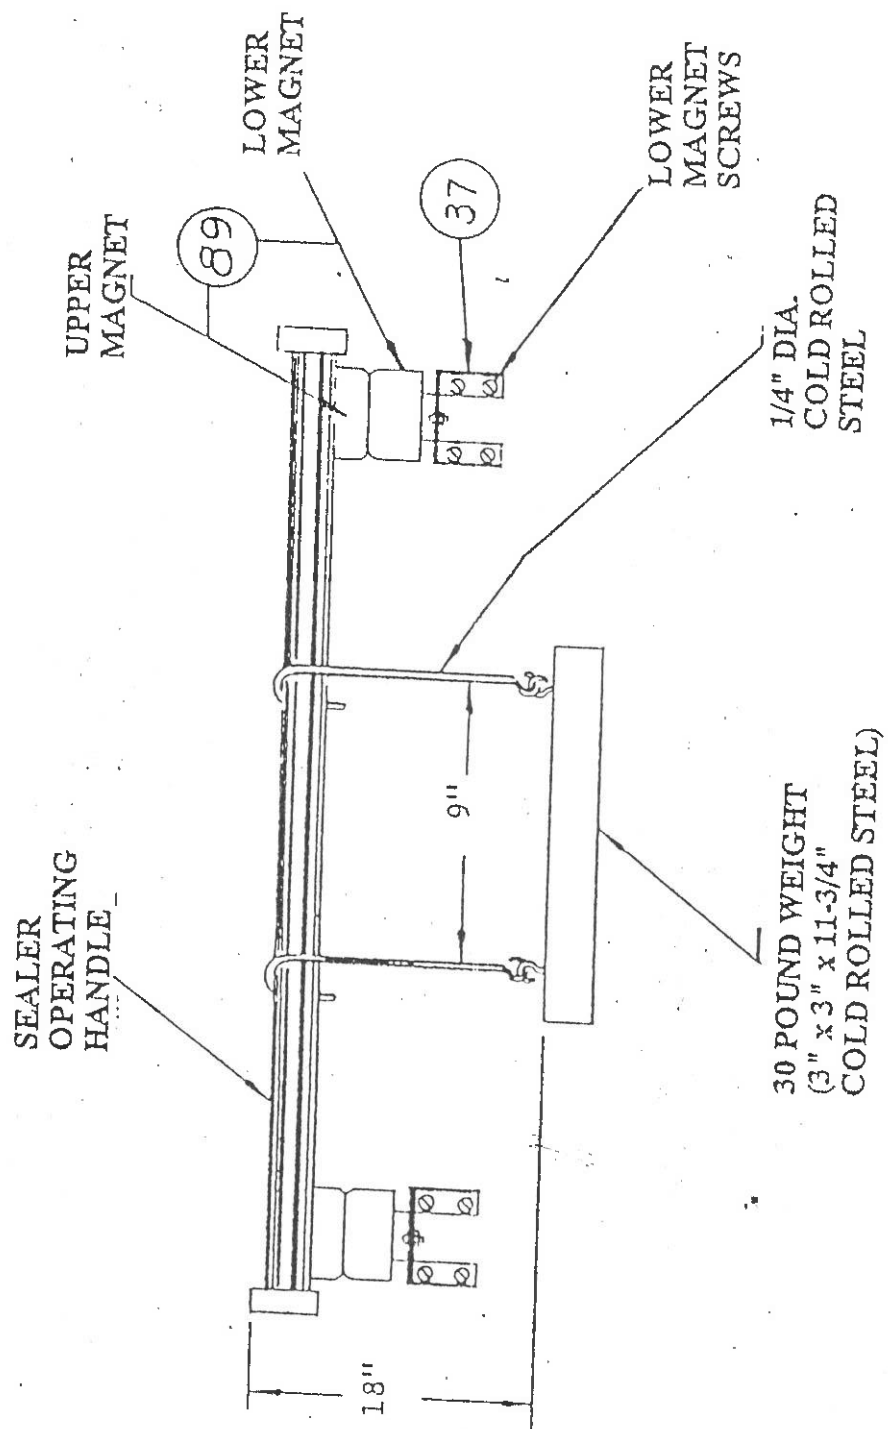

Figure 10.4 Adjustment of Magna-Lok Sealing Pressure
- b. Refer to Figure 10.4. Loosen the lower magnet screws on all lower magnets so that the magnets settle to their lowest position in their mounting slots.
* As shown on Figure 10.4, the special weight should be fabricated from a piece of cold-rolled steel 3" x 3" x 1 1-3/4" with the mounting hooks spaced 9 inches apart and centered equally from the ends of the steel bar.